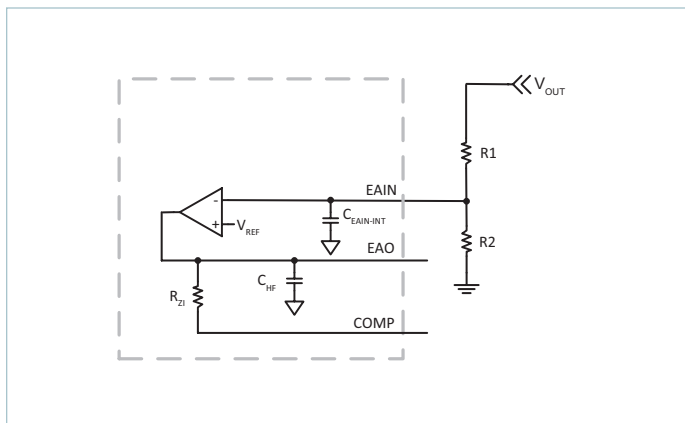

Figure 58 — External resistor divider network
The PI352x-00 family of Buck Regulators utilizes  $V_{REF}$ , an internal reference for regulating the output voltage. The output voltage setting is accomplished using external resistors as shown in Figure 58. Select R2 to be at or around 1k $\Omega$  for best noise immunity. Use Equations (2) and (3) to determine the proper value based on the desired output voltage.